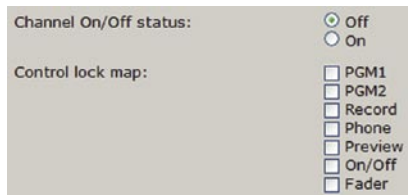

Figure 5-3: Channel lock controls.
- **Control Lock Map:** This option works similar to the **Lock** command in the SmartSurface **Channel Options** menu (see Chapter Four for details). Place a check mark in any of the boxes to “lock” the selections for this channel's bus assignments, On/Off state and fader position (Figure 5-3).